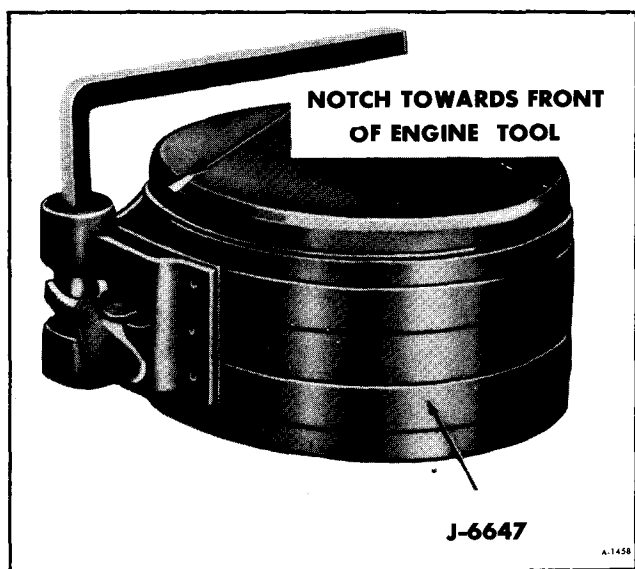

Figure 51—Piston Ring Compressor
2. Apply engine oil to rings and piston, then install piston ring compressing tool on piston. See Figure 51.